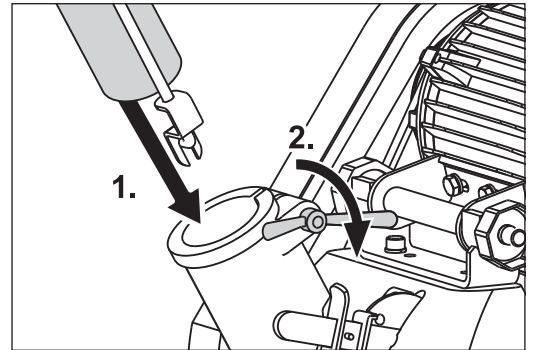

Fig. 2 Insert the guide tube into the opening in the machine housing (1.). Tighten the wing nut (2.).
- 2 Insert the guide tube into the opening at the back of the machine housing (Fig. 2, 1.) and tighten the wing nut (Fig. 2, 2.).